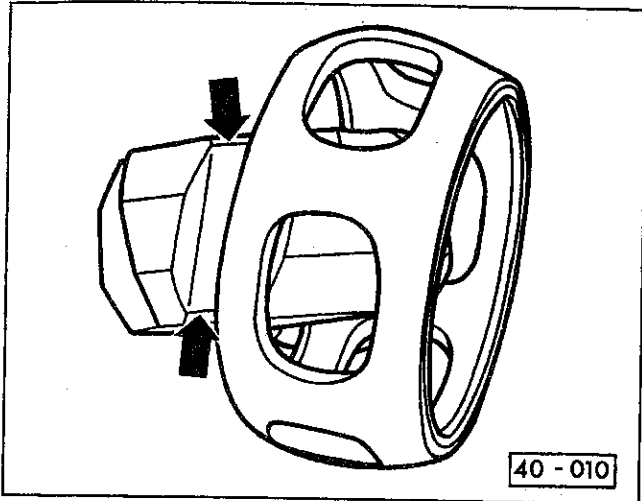

Fig. 27. Align ball tracks (arrows) on hub with ball cage edge when installing hub into cage.
4. Press balls out of cage. Tilt ball hub so that ball tracks are aligned with edge of ball cage and remove hub from cage. See Fig. 27.